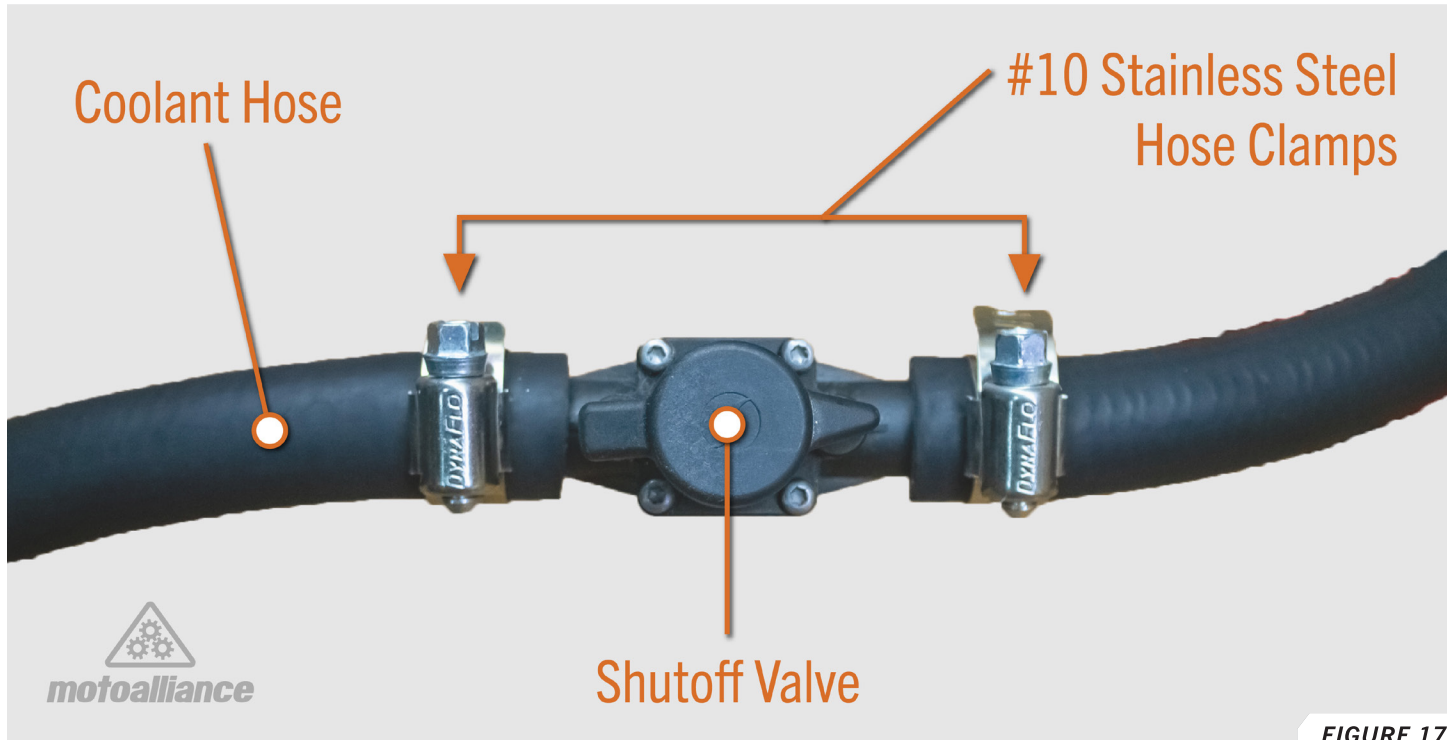

FIGURE 17
37. Select a location along the hose to the engine that will be easy to access (we recommend a location within the cavity under the driver's seat), then install the shutoff valve by cutting into the hose and securing with two #10 hose clamps. **FIGURE 17**